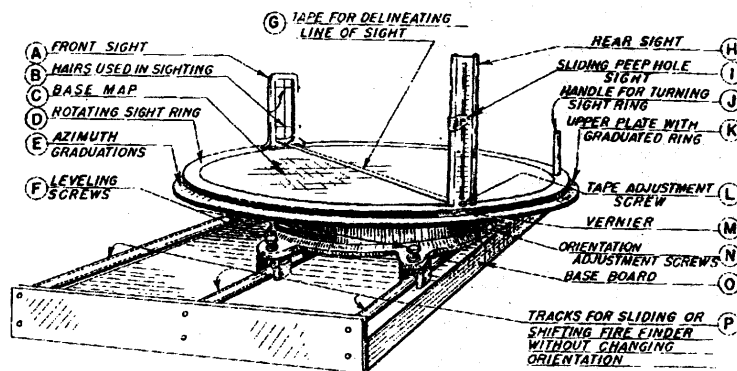

Figure 98 The Osborne Firefinder
The Osborne Firefinder is the basic tool of your job. It is used to accurately locate fires or smokes which you will discover. The accuracy of your reports of fires will depend, to a large extent, on how, well you keep the instrument adjusted and oriented. Knowledge of the various parts of your firefinder (see Fig.98) will enable you to keep it in adjustment.
- Loosen orientation adjustment screws below the upper plate of firefinder. (See N, Fig. 98.)
- Adjust screws at either end of tape so that "0" point on the tape will be directly over the center pin. (See Tape G, Fig. 98.)
You will notice that the azimuth circle, or the rim around the outside of the Finder Plate, is marked with degrees and fractions of degrees. "0" (zero) on this rim, when the firefinder is properly oriented, is on the south side of the rim. This has been done for convenience in reading the azimuth. If the figures were placed in their true position, you would have to go around the finder to the opposite side in order to take the reading, thereby consuming valuable time. Figure 98 pictures the Osborne Firefinder, illustrating the different parts referred to in the following paragraphs.